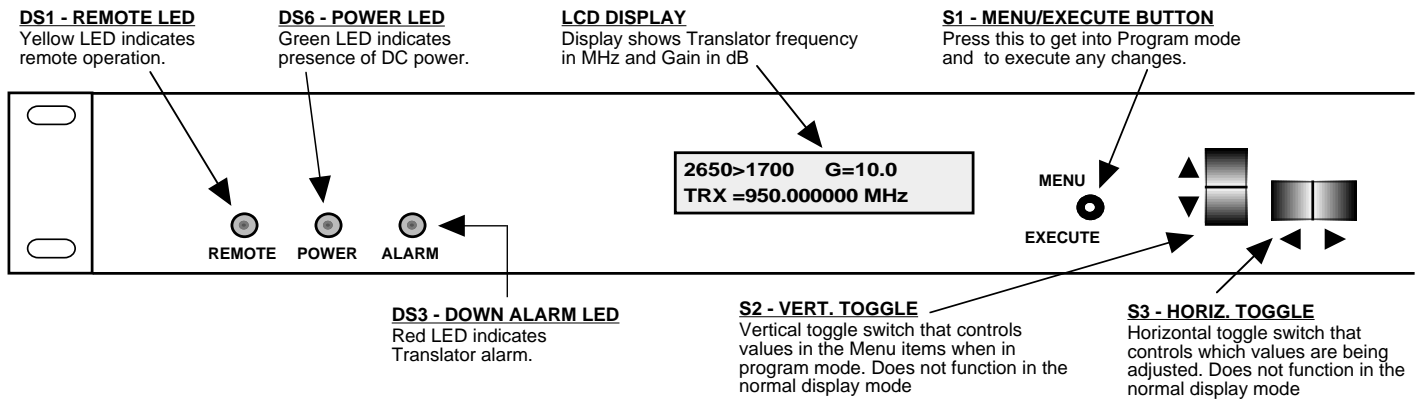

FIGURE 2.3 2083-2717 Front Panel Controls and Indicators
5. Be sure DS6 (green, DC Power) is on and DS (red, Alarm) is off (Figure 2.3).
Alarm indications appear on the LEDs (See figure 2.3).